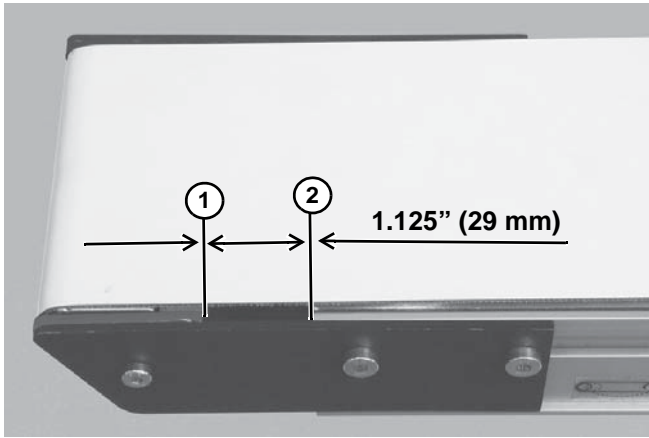

Figure 29
2. Adjust head plate assembly so the edge of the axle support plate (**Figure 29, item 1**) is separated from the end of the conveyor (**Figure 29, item 2**) by 1.125" (29 mm). Replace belt if proper tensioning can not be obtained within a distance of 1.50" (38 mm). See NOTE.